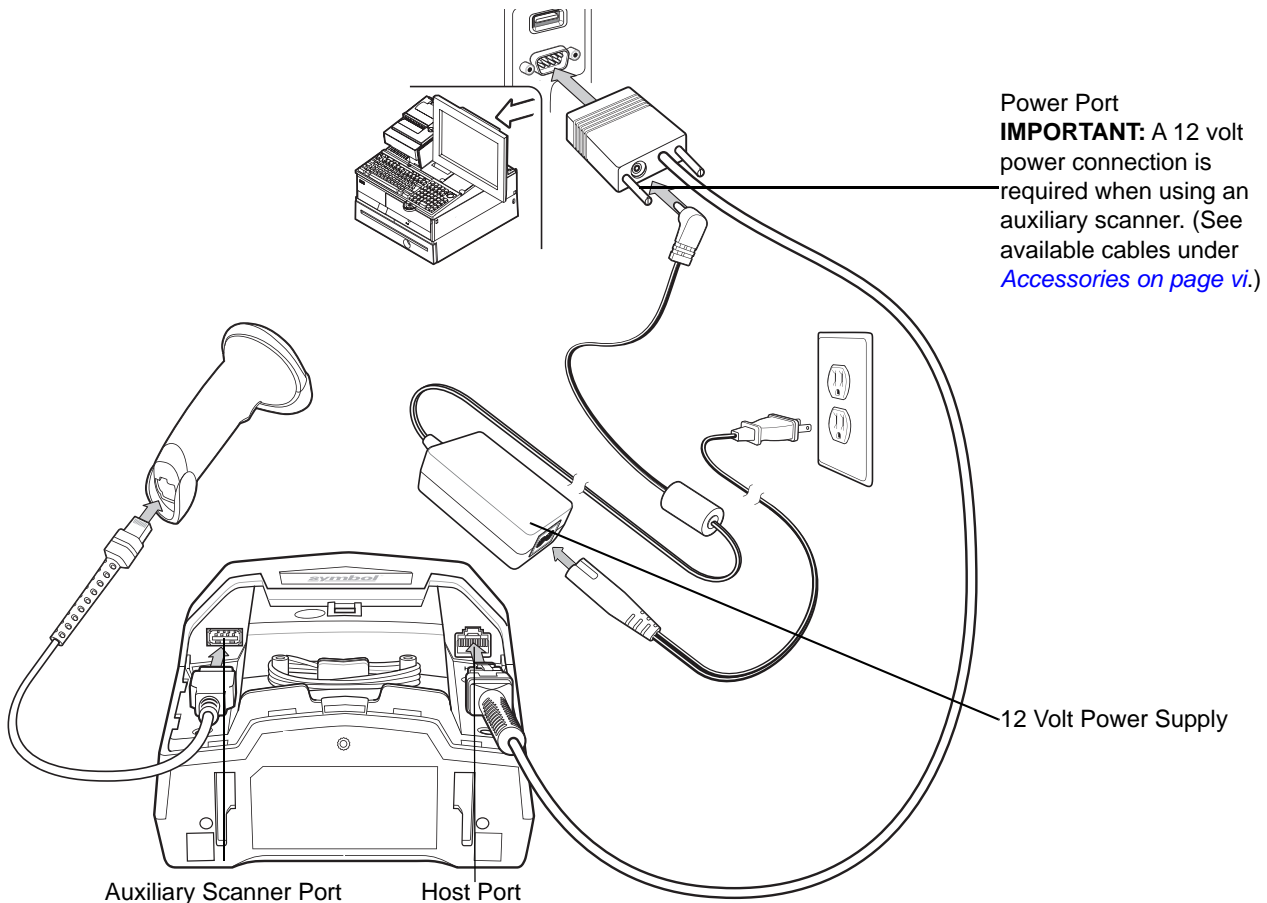

Figure 8-2 RS-232 Connection with Auxiliary Scanner - 12 Volt Power Supplied Externally
- b. Connect a 12 volt external power supply to a 12 volt Power Plus host connector as shown in Figure 8-2.